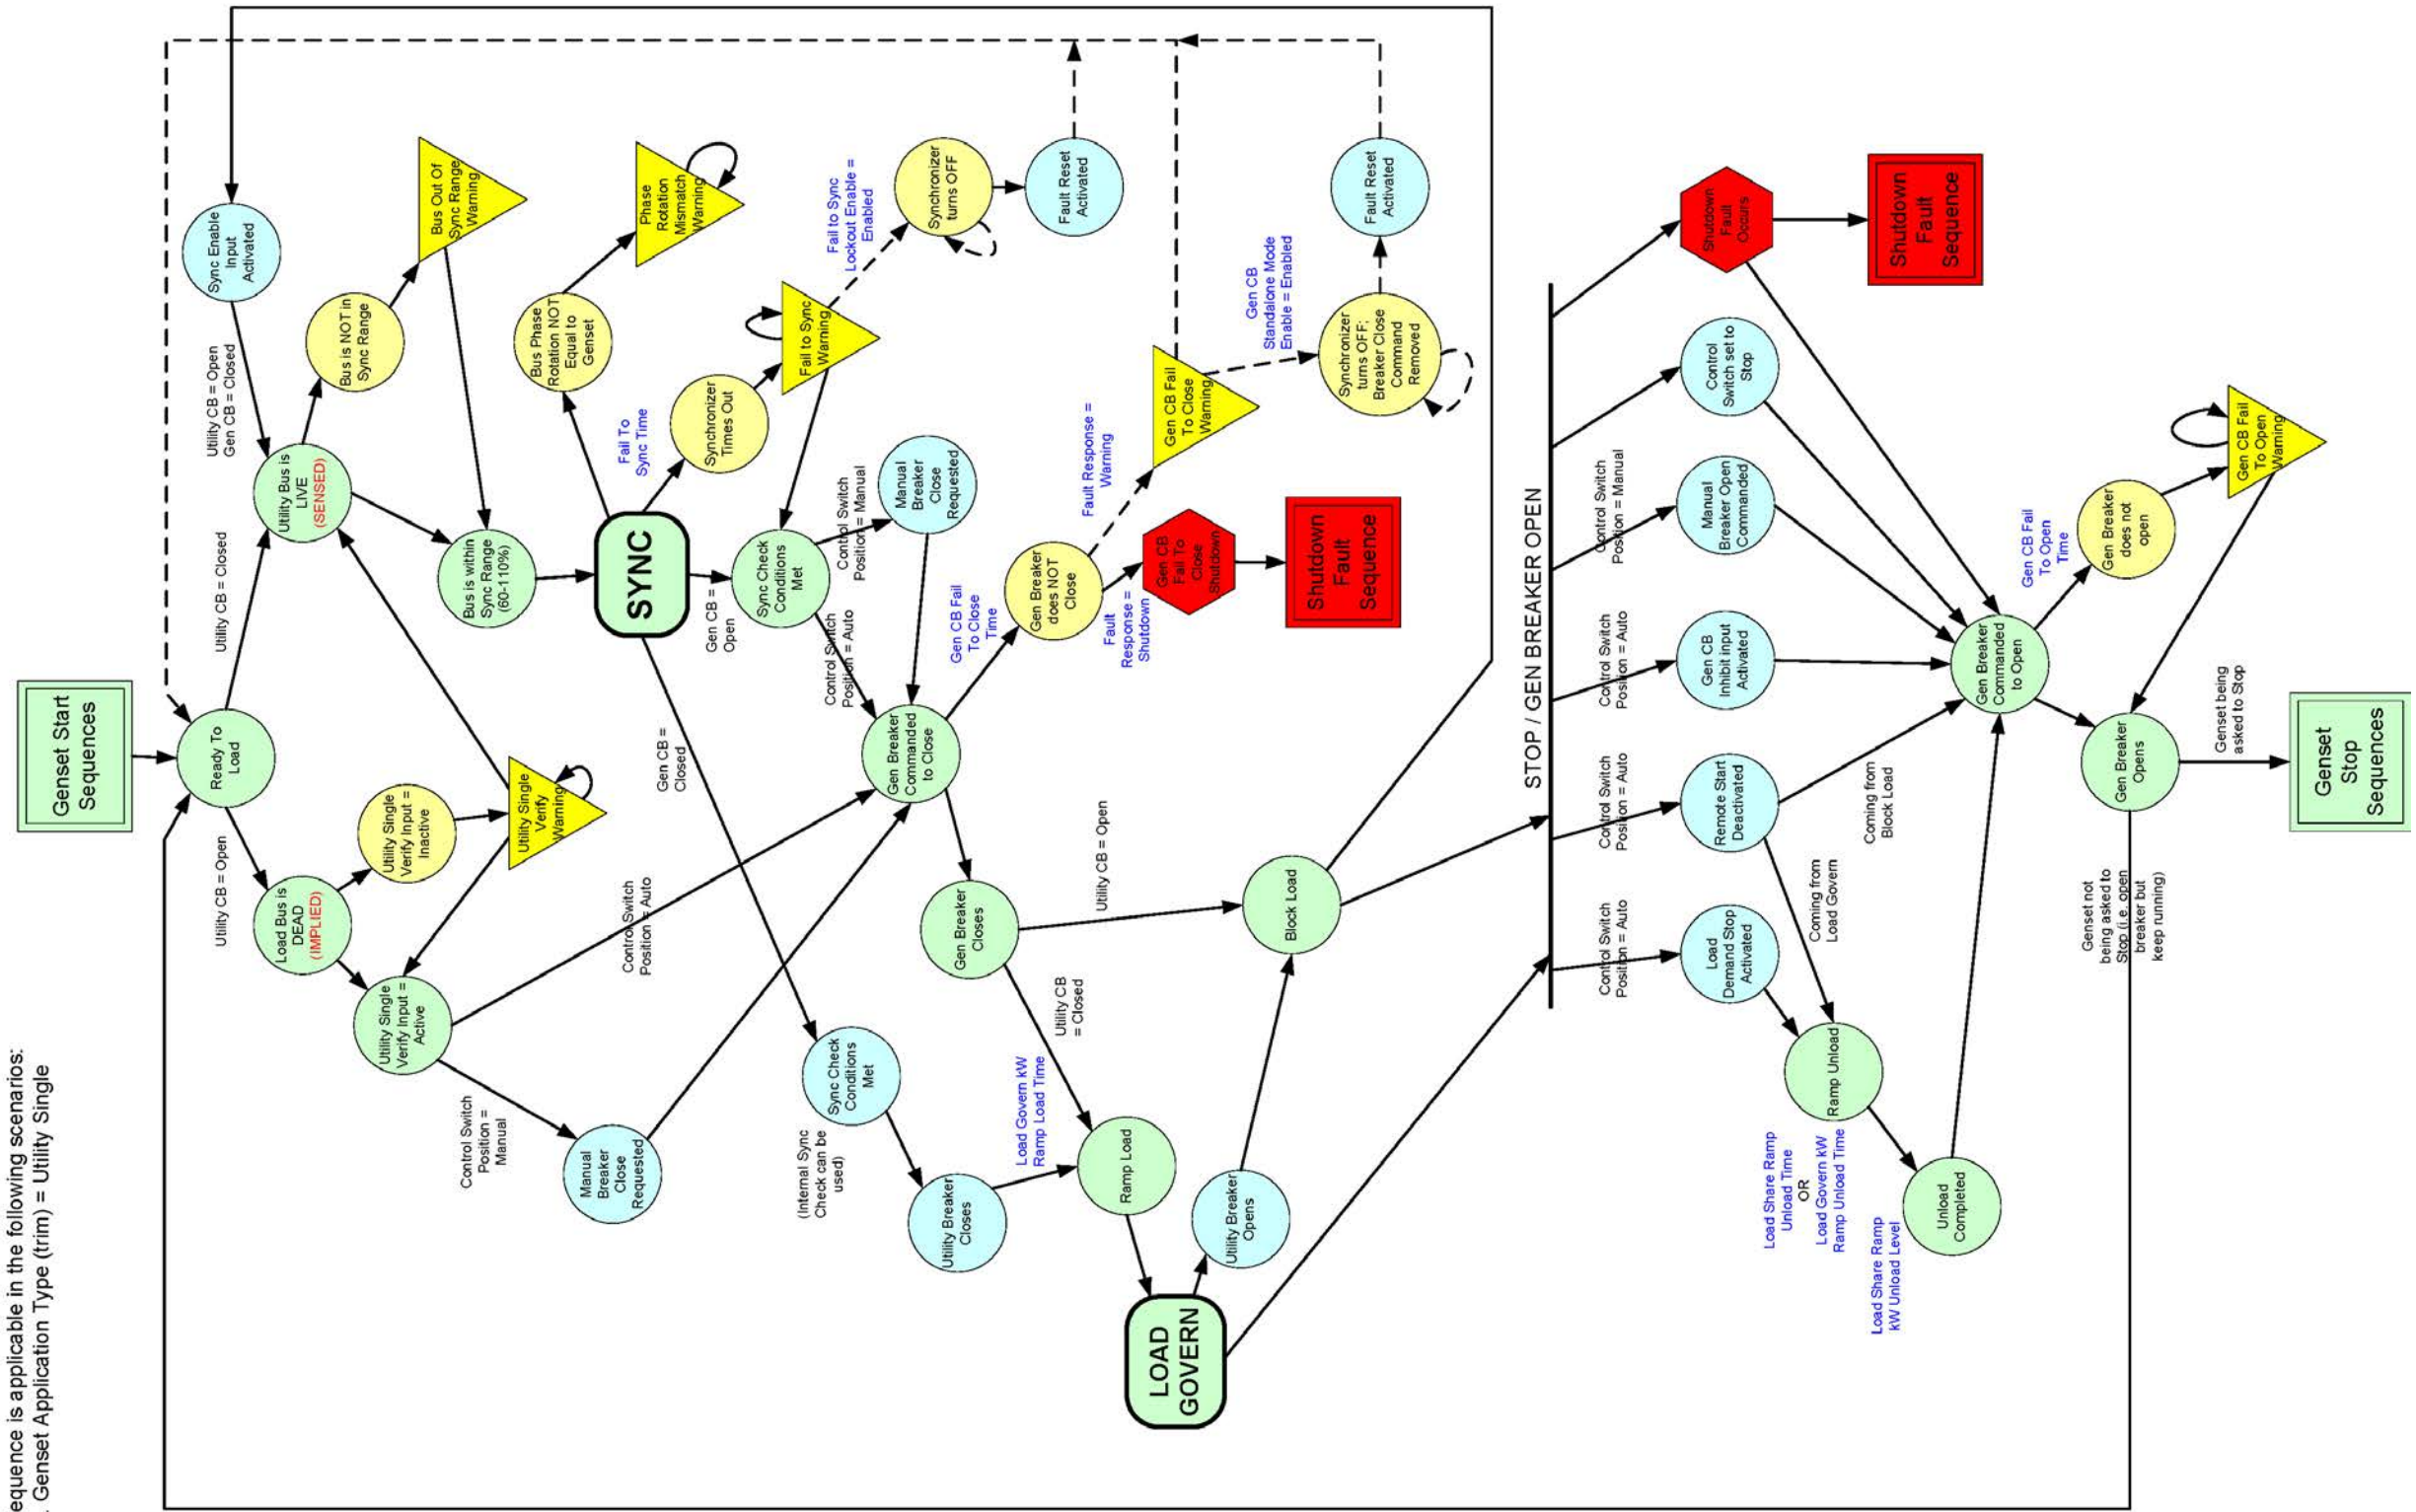

FIGURE 144. UTILITY SINGLE
- Figure 144. Utility Single 676